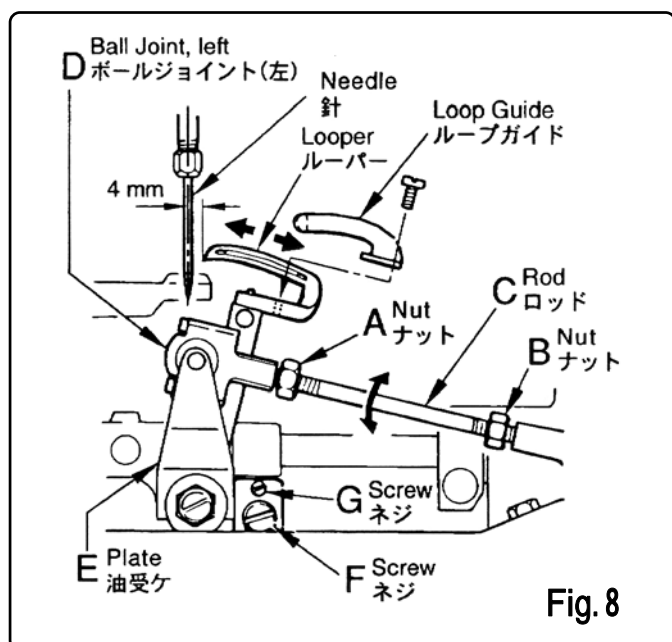

Fig. 8
c) Distance between Loooper and Needle (Fig.8)
d) Clearance between Loooper and Needle (Fig.8, 9)
Loosen the Screw F and turn the Screw G as required. Turning Screw G to the right will make the Loooper go away from you, and turning it to the left will make the Loooper get nearer to you. After the adjustment, tighten the Screw F, and check the movement of the Loooper again. (Fig.8)
To adjust, move the Needle Bar B in the vertical direction after loosening the Screw A of the Needle Bar Connection. When the proper height is obtained, check the position of the concave part of the Needle again, and tighten the Screw A. (Fig8 of page 5)
c) 針とルーパ-の距離(Fig.8)
ネジ F を緩めて、ストップネジ G を右に回すとルーパ-は奥の方へ、左に廻すと手前の方へ動きます。調整後ネジ F を締めて、ルーパ-の動きを確認してください。(Fig.8)
- 調整は、針棒抱きのネジ A を緩め、針棒 B を上下させて調節してください。(5 ページ、Fig.8)